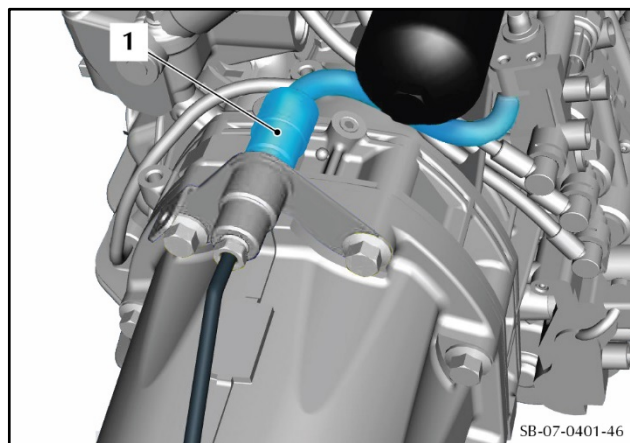
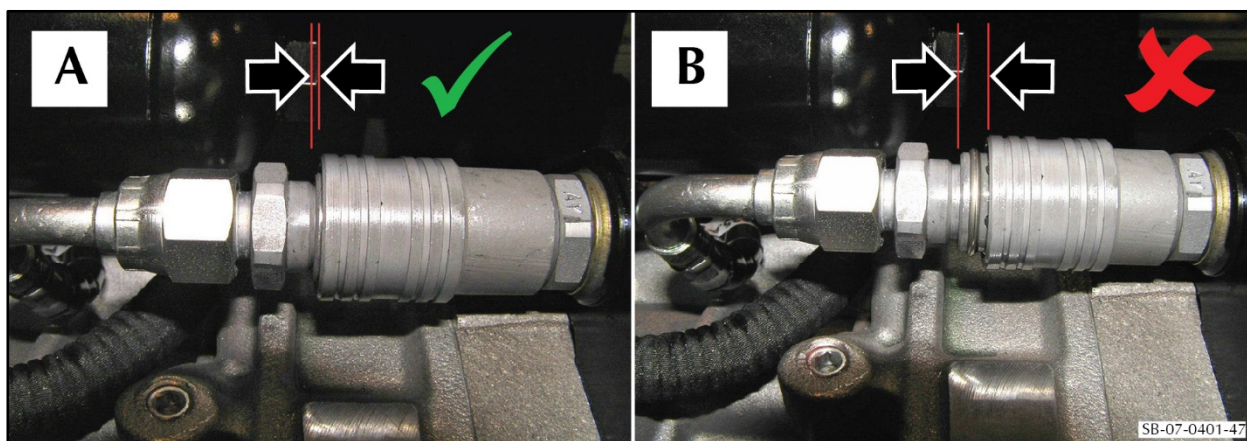

Figure 48
Figure 49
94. Connect the dry-break connector to the tube assembly for the clutch slave cylinder (refer to Figure 48). Make sure that the locking collar for the connector is in the correct position shown in view A of Figure 49. View B shows a connector that is not correctly connected.